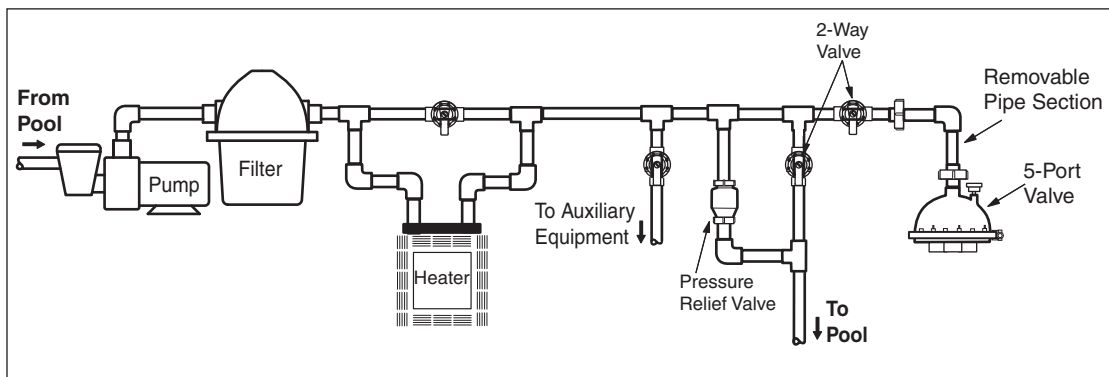

Figure 4. Example of a Plumbing Setup
The valve is sealed at the factory, ready for installation at startup without adjustment. For setup and pressure testing during the construction phase, install the non-functioning test housing (5-Port Test Housing, part number 4-9-2002 purchased separately). Refer to Figure 4.
Use the second union to install a removable section of pipe immediately before the valve to provide service access to the valve dome stainer. Refer to Figure 4.
1. Unscrew the two (2) union nuts and remove the pipe section located in front of the water valve. Refer to Figure 4.